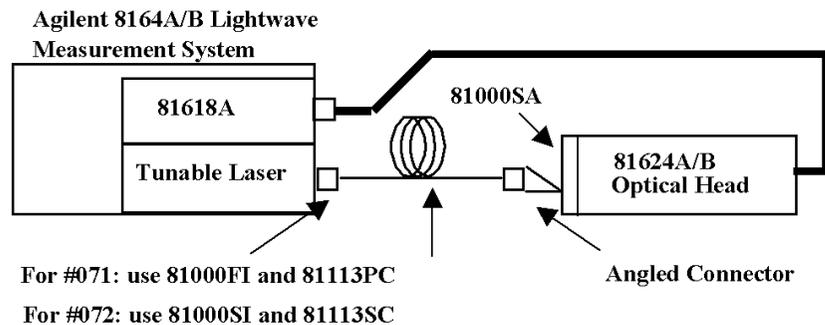

Figure 30 Test Setup for Power Flatness Tests - High Power output, without using attenuator
- 1 Set up the equipment as shown in Figure 30: